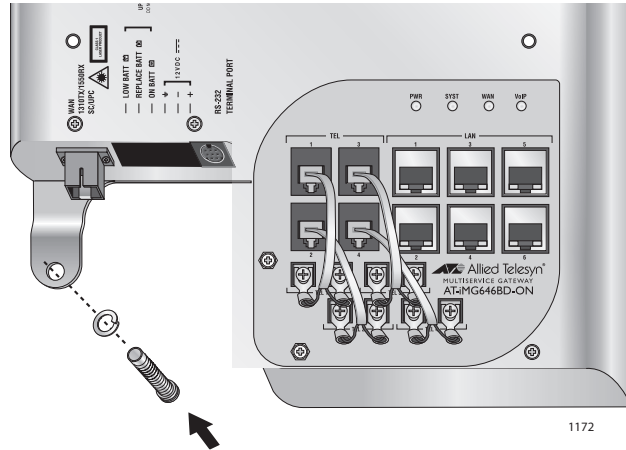

Figure 47. Putting the Washer on the Stud
7. Put the stud with the split ring washer on it through the gateway grounding hole in the gateway, as shown in Figure 47.